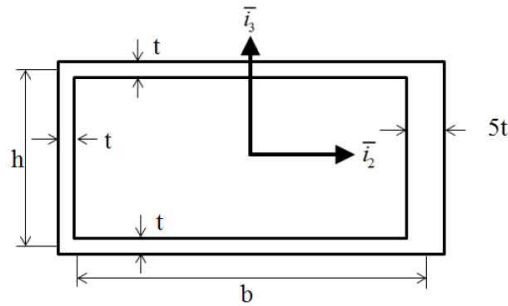

Figure 3. the rectangular beam section.
4. (25 points) The thin-walled, rectangular beam section shown in Fig.3 is subjected to a horizontal shear force, V_2 . The thickness of the right vertical web is $5t$, whereas that of the remaining walls is t .